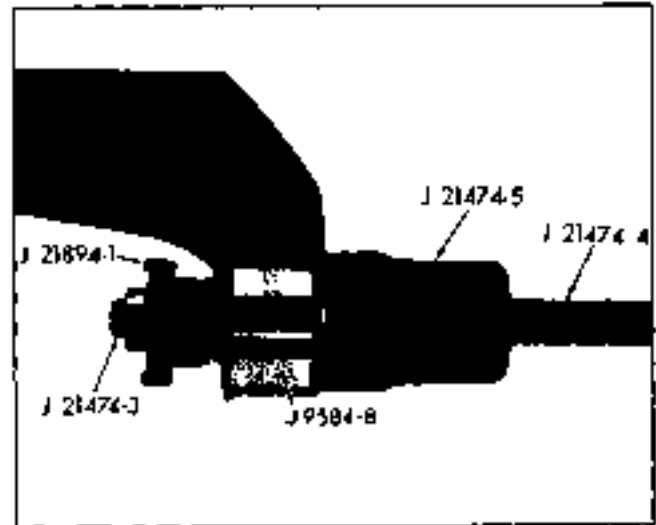

Fig. 3-18 Removing Pontiac Lower Control Arm Front Bushing or Tempest and Grand Prix Rear Bushing
2. Remove bushing from control arm by arranging tools as shown in Fig. 3-18.